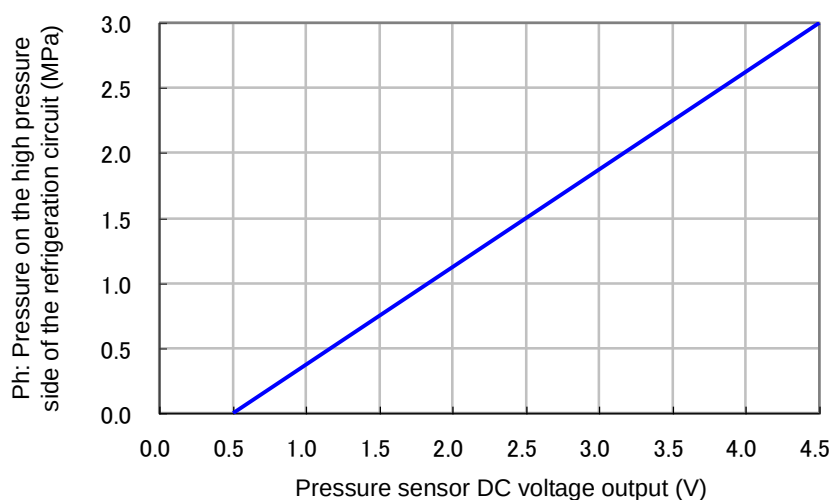

Fig. 3.3-46 Refrigerant circuit pressure sensor (for high pressure) analogue output
- (1) Check the "Ph: Refrigerant circuit pressure on the high pressure side" value in the "Check Monitor Menu".
- (2) Check voltage by contacting the probe of the tester directly to the connector external surface with the "CN4" connector of the main board being inserted.
- (3) Contact the positive probe to the pin number 11 and contact the negative probe to the pin number 10 of the "CN4" connector.
- (4) Check that the voltage between the pin number 11 and the pin number 10 is in the same relationship shown in Fig. 3.3-46. (Accuracy: $\pm 5\%$)
- (5) If the voltage is in the same relationship as the graph shows, it means that the main board is operating correctly.